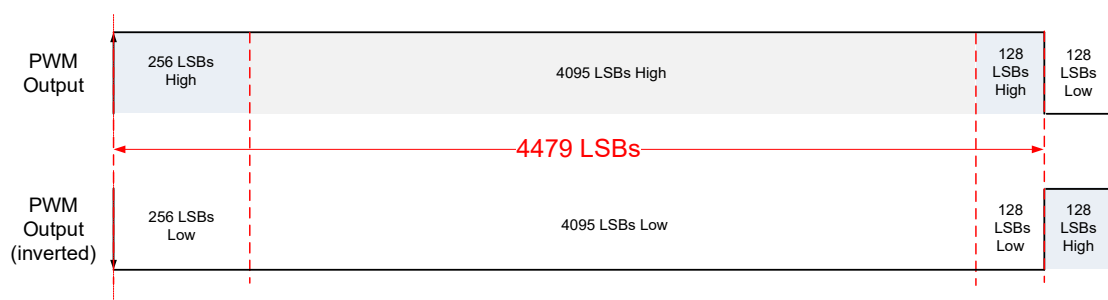

Figure 19. 12-bit PWM Signal in Diagnostics High Mode
- Diagnostic high mode, see Figure 19 and Figure 21;